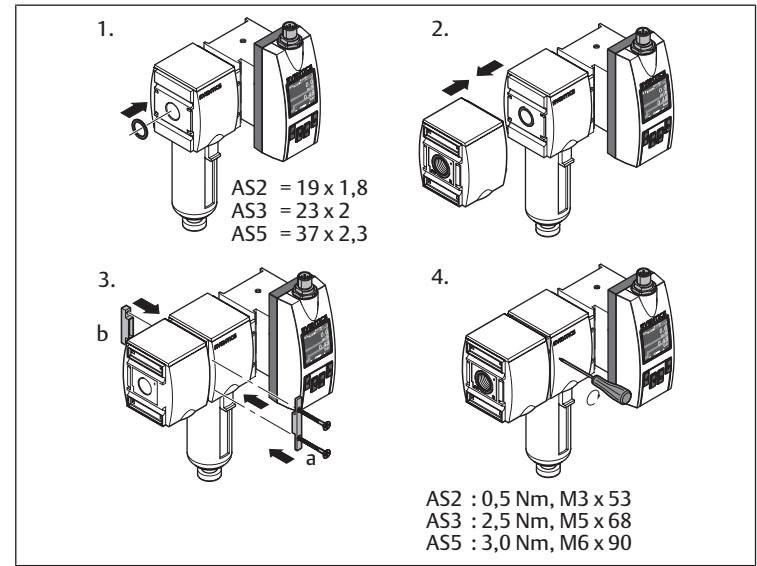

Fig. 5: Assembly with block assembly kit | W04
- Assembly with block assembly kit and air preparation unit: see → Fig. 5.